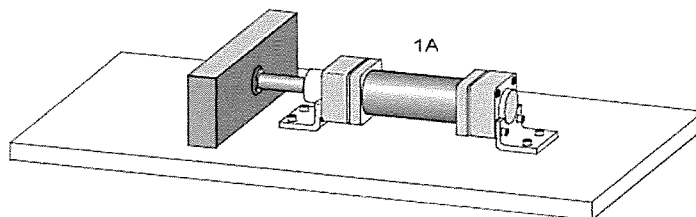

Figure Q3(b) (source: Pneumatics Basic Level, Festo)
b. By referring to Figure Q3(b), design a pneumatic circuit.